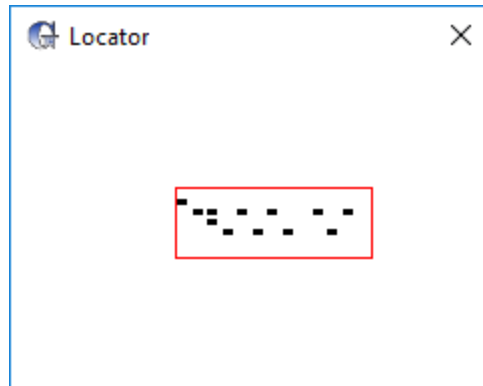

Figure 2-8 – The Locator Window
1. **Click on the *Locator* menu item found under *View > Zoom*. The **Locator** window is displayed as shown in **Figure 2-8**.**